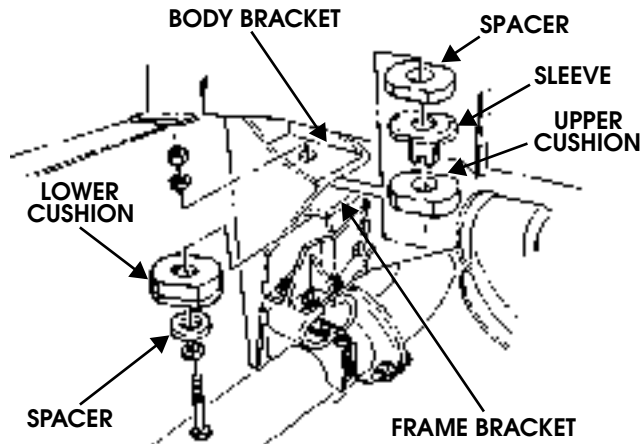

Figure 10-119: Body Mount Cushions Replacement
1. Remove locknut, washer, bolt, washer, and two spacers securing sleeve, upper cushion, and lower cushion to body bracket and frame bracket (Figure 10-119).
3. Raise the body far enough to separate the upper cushion from lower cushion and remove spacer, sleeve, upper cushion, and lower cushion (Figure 10-119).
1. Position lower cushion, upper cushion, sleeve, and spacer between body bracket and frame bracket (Figure 10-119).